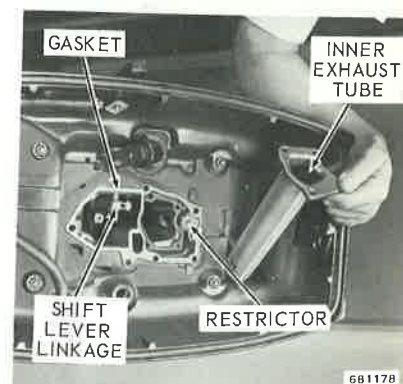

Figure 6-7. Restrictor and Inner Exhaust Tube
- Remove power head as described in Section 5. The restrictor lifts out of the housing. The inner exhaust tube can be removed by removing four screws. See Figure 6-7. Remove lower motor cover and cover bracket from exhaust housing.